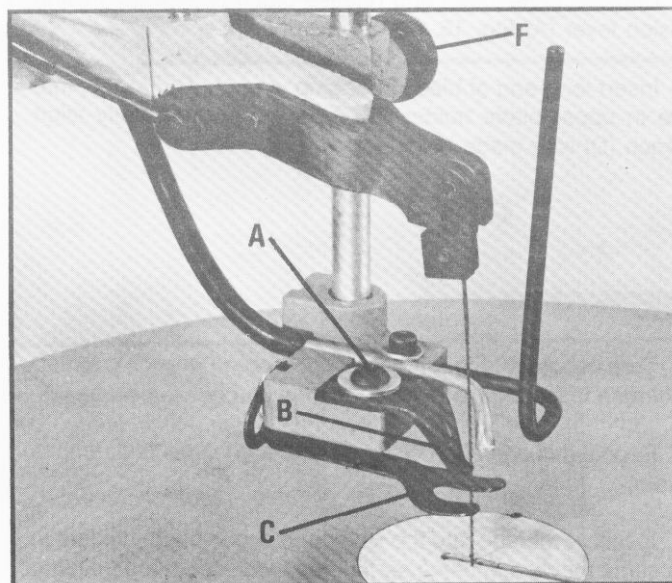

Fig. 21
The button head screw (A) Fig. 21, holds the blade guide to the blade guide bracket. The guide (B) should be adjusted forward until the V-slot barely touches the rear edge of the blade. Then tighten screw (A) Fig. 21. The blades should not rub in the slot while running free. Excessive friction work hardens the back edge of the blade and reduces blade life. Pressure on the work will push the blade back against the guide while cutting.
The purpose of the holddown spring (C) Fig. 21, is to hold the work against the table so that it cannot lift with the up stroke of the blade. It should lie flat on the work with the front prongs straddling the blade.
The holddown spring (C) Fig. 21, is attached to the blade guide bracket and the height of the holddown spring is adjusted by loosening knob (F) and moving the guide post up or down.